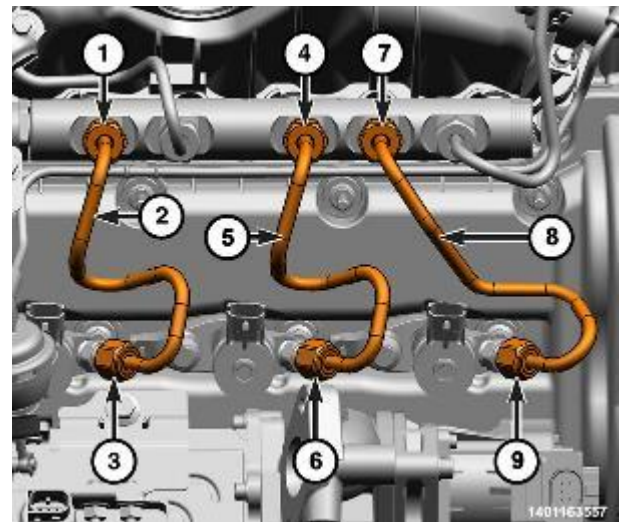

Figure 106 – Right Fuel Injector Tubes
24. Unscrew the union nuts (7 and 9) and remove cylinder No. 1 fuel tube (8) and the discard fuel tube (Figure 106).
25. Unscrew the union nuts (4 and 6) and remove cylinder No. 2 fuel tube (5) and discard the fuel tube (Figure 106).
26. Unscrew the union nuts (1 and 3) and remove cylinder No. 3 fuel tube (2) and discard the fuel tube (Figure 106).